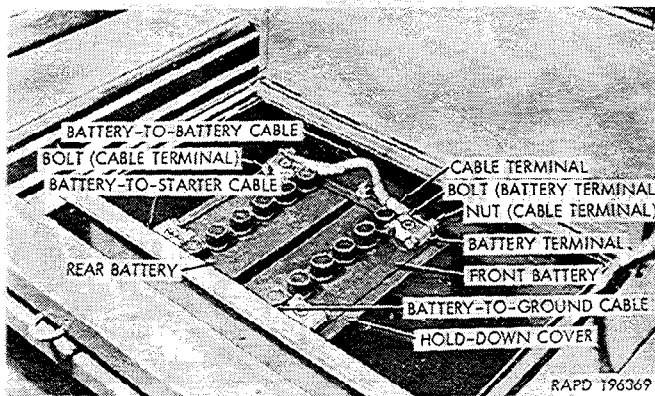

Figure 2-73. Battery box location (early production ambulance truck M43).
Current for the 24-volt lighting system (fig. 2-6) is supplied by two 12-volt batteries. Batteries (fig. 2-23) for all models, except the early production models of the ambulance truck M43, are located in a box under the passenger's seat in the driver's compartment. Batteries (fig. 2-73) for the early production vehicles of the ambulance truck M43 are located in the left front compartment under the patient's seat.
(1) Loosen the nut on the battery terminal bolt at the negative (—) post of the outer battery (fig. 2-23) or front battery (fig. 2-73) and remove the terminal with attached ground cable. Remove the battery-to-battery cable and the battery-to-starter cable in the same manner. Remove the insulator from the positive (+) post of the inner battery (fig. 2-23) or rear battery (fig. 2-73) if so equipped.
toward the front and that of the outer battery (fig. 2-23) toward the rear. For ambulance truck M43 with batteries in the patient compartment, install the front battery with the negative (—) post toward the center of the vehicle and that of the rear battery toward the left side of the vehicle (fig. 2-73).
(4) Install the rubber insulator on the positive post of the inner battery (fig. 2-23), or the rear battery (fig. 2-73) if required. Refer to note in *b* (1) above. Install the battery-to-starter cable and battery terminal on the battery post.
(5) Install battery-to-ground cable and battery terminal on the negative (—) post of the outer battery (fig. 2-23) or front battery (fig. 2-73).
(6) Tighten the nuts on the four battery terminal bolts.